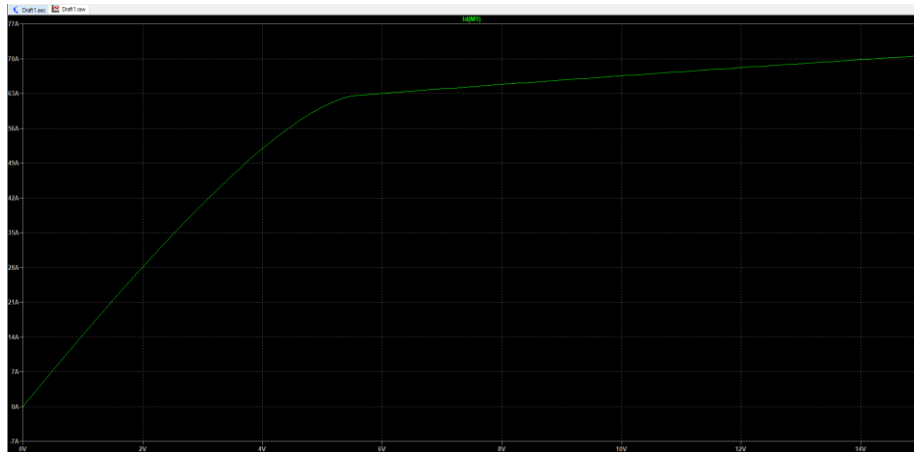

Figure 14: I_D vs V_{DS} ($V_{GS} = 5V$)
6. Set $V_{gs} = 5V$. Click  to set up the parameter, perform a DC sweep simulation by changing the V_{dd} from 0-15V with increments of 100mV. Then Plot the curve for I_D vs V_{DS} , first you will see nothing on the figure, then right click on the black area, choose **Add Traces**, then choose Id(YOUR MOSFET NAME), click OK, the curve will show on the screen, as Figure 14.